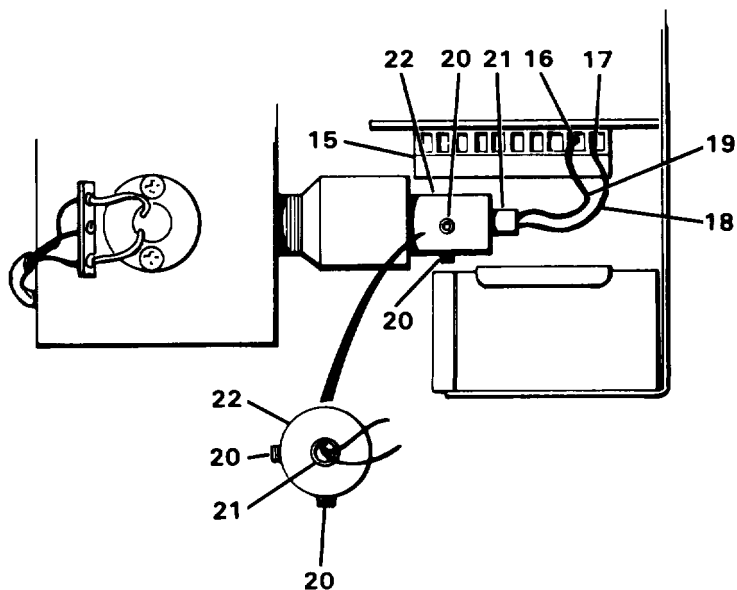

Figure 4-106. Portable Turbidity Meter (sheet 2 of 2)
(1) Install the lamp (21, Figure 4-106, sheet 2) by pushing the lamp (21) straight into the barrel (22). Tighten two setscrews (20).
(2) Connect the wires (18 and 19) to terminals (16 and 17) and tighten terminal screws.
(1) Install battery (13, Figure 4-106, sheet 1) and bracket (12) and secure with two capscrews (9), nuts (10) and lockwashers (11).